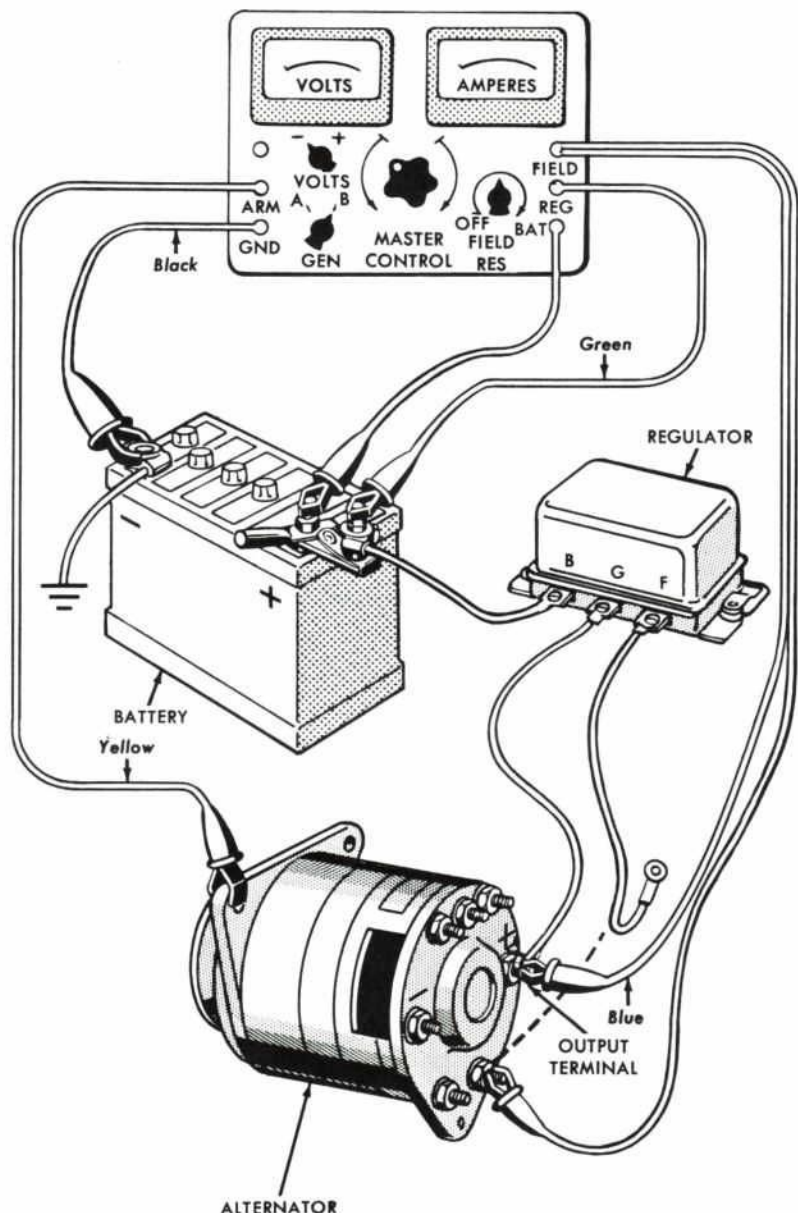

FIG. 42— Voltage Drop Test — Alternator to Battery Ground Terminal
1. Make the connections as shown in Fig. 42.